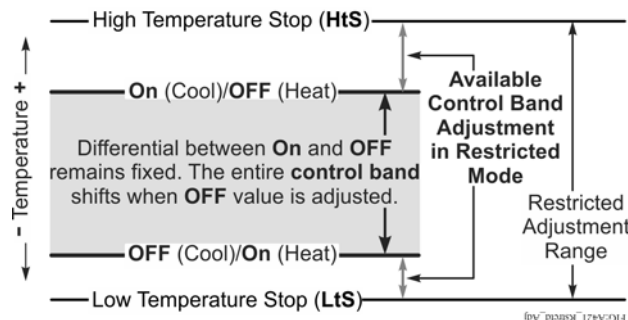

Figure 9: Adjustment Behavior in Restricted Adjustment Mode
Restricted Adjustment Mode: The HtS and LtS values define the restricted adjustment temperature range and are enforced only when the DTC1 control is set to the restricted adjustment mode (Figure 9). See *Restricting User Adjustment*.
You can restrict user adjustment of the DTC1 control to either just OFF value (control band) only and limit the range of this value (Figure 9).
- The **OFF** value can only be adjusted to values that maintain the entire control band within the restricted temperature adjustment range defined by HtS and LtS. See Figure 9.
2. Select the **OFF** and **On** values that define the application's required control band (Figure 9).
3. Change the **HtS** and **LtS** temperature values to define the restricted adjustment range (Figure 9).
Control adjustment is now restricted to changing only the **OFF** value, which shifts the On/OFF control band within the restricted adjustment range defined by HtS and LtS (Figure 9).